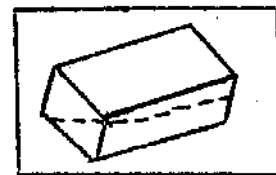

Fig. 16 - Side Break
54. Side Breaks. (See Fig. 16.) Move the lower adjusting bolts (G and H) side-ways toward the high side of the break (see Fig. 1). If more adjustment is needed, move the upper adjusting bolts (E and F) toward the low side of the break. This can sometimes be done simply by hammering the bolt side-ways (with a piece of wood, so that the threads will not be damaged) rather than by loosening and tightening the nuts. After the bolts are hammered over, tighten the nuts.